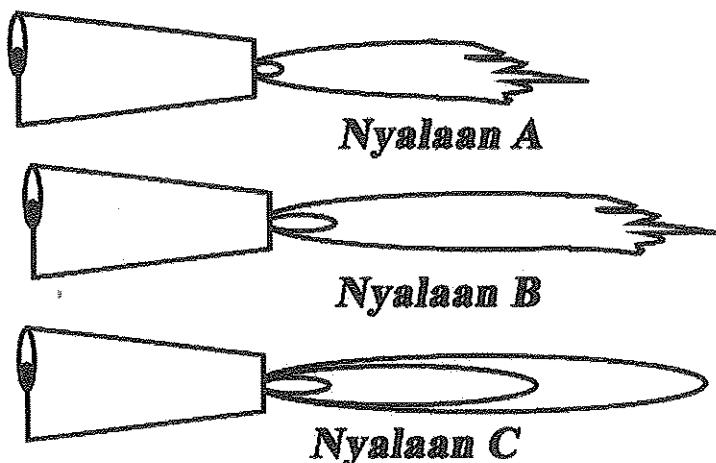

Figure 4b (iii) / Rajah 4b (iii)
- ii. Describe TWO (2) needs of flame adjustment in gas welding.
*Jelaskan DUA (2) keperluan pelarasan nyalaan dalam kimpalan gas.*
- iii. Identify the types of flame in Figure 4b (iii).